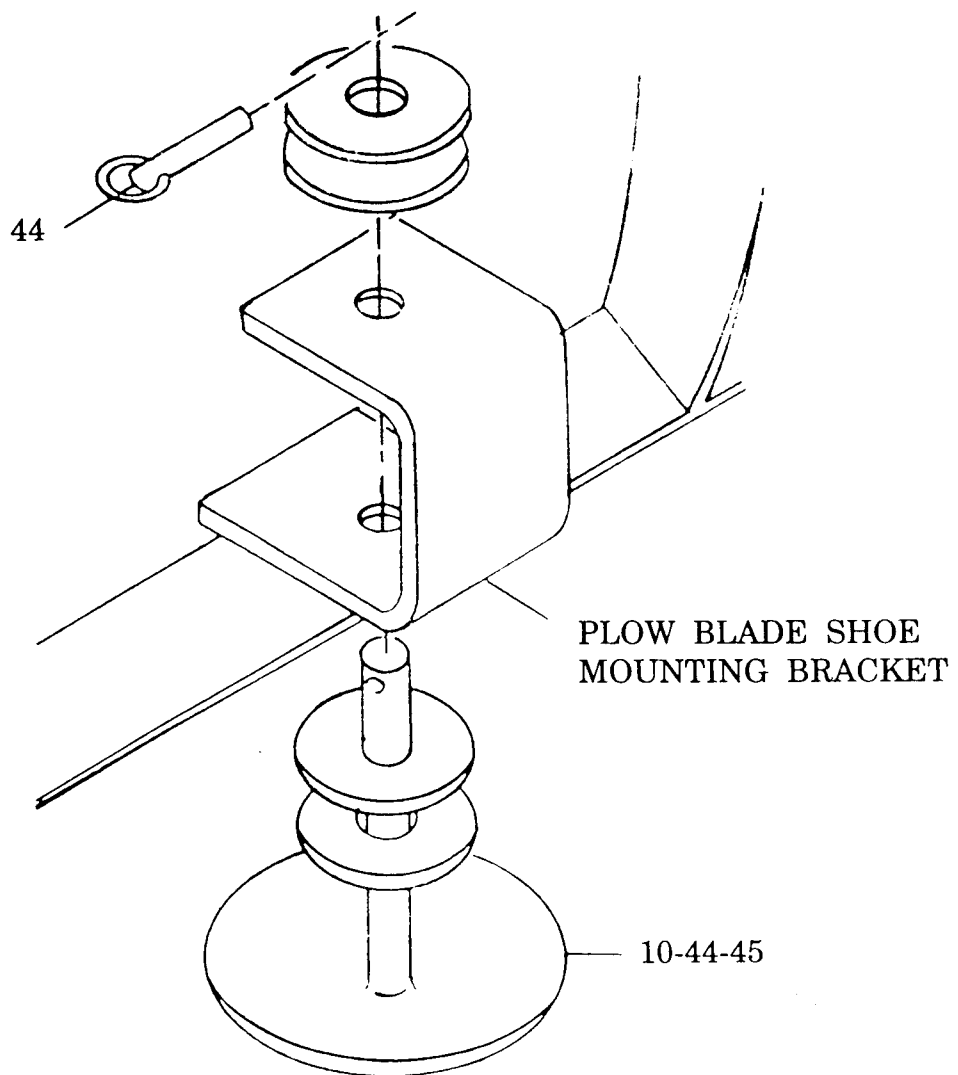

FIGURE 2
3. Mount both ADJUSTABLE PLOW SHOE ASSEMBLIES (Ref. No. 10-44-45 Fig. 2) by placing seventeen of the 1" FLAT WASHERS on each PLOW SHOE and installing them into the plow blade shoe mounting brackets. Place three more washers on each and secure them in place with the QUICK PINS (Ref. No. 44, Fig. 2). The PLOW SHOE ASSEMBLIES need to be adjusted one more time when the plow is completely assembled.